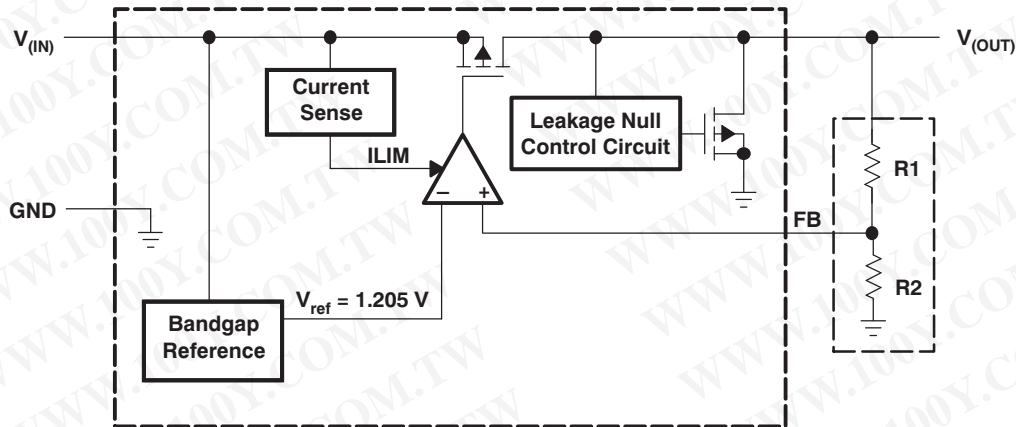

Figure 1. Functional Block Diagram—Adjustable Version
(1) Minimum  $V_{IN} = V_{OUT} + V_{DO}$  or the value shown for *Input voltage* in this table, whichever is greater.
(2) See Figure 1. The TPS715xx family employs a leakage null control circuit. This circuit is active only if output current is less than pass FET leakage current. The circuit is typically active when output load is less than  $5\ \mu\text{A}$ ,  $V_{IN}$  is greater than  $18\text{ V}$ , and die temperature is greater than  $+100^\circ\text{C}$ .